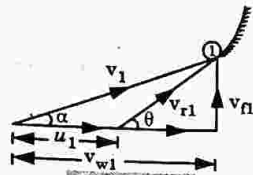

Fig. 5.14.1.
1. Let water coming from casing is guided at an angle α from wheel tangent by guide blade. Hence α is called as guide blade angle (Fig. 5.14.1). Let v_1 is velocity of water leaving the guide vane and entering into runner blade. This is called absolute velocity (v_1) of water at inlet. Now v_1 has two components :